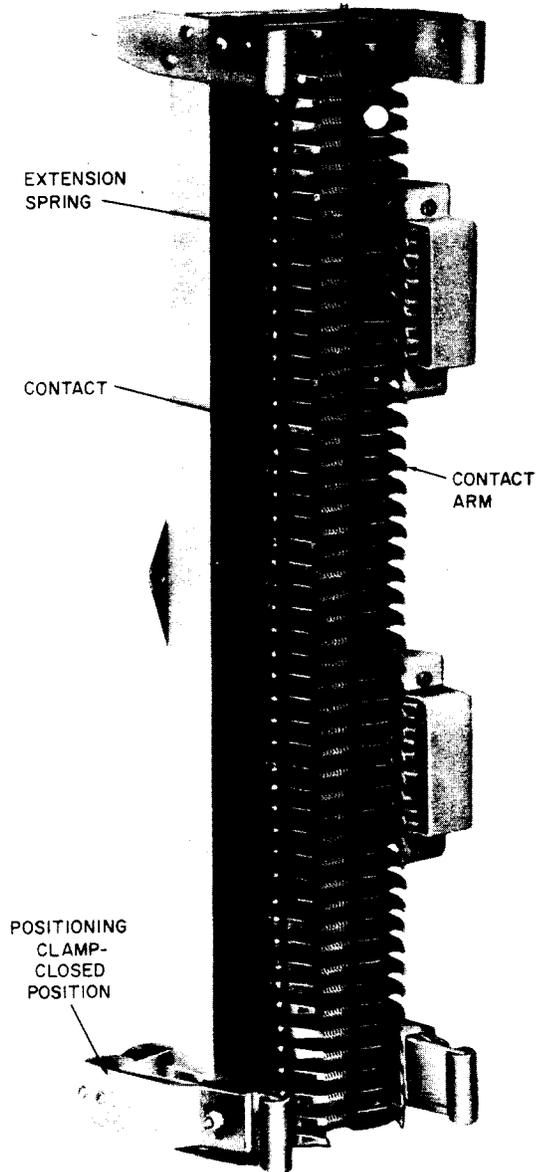

Fig. 6—B Pair Identifier-Front View
| Figures | | (3) Add Figs. 6 and 7. | |
| B Pair Identifier | Used for identification tests by contacting test points on 121-type or 300-type connectors. Refer to Section 106-315-103. | See Fig. 6 |